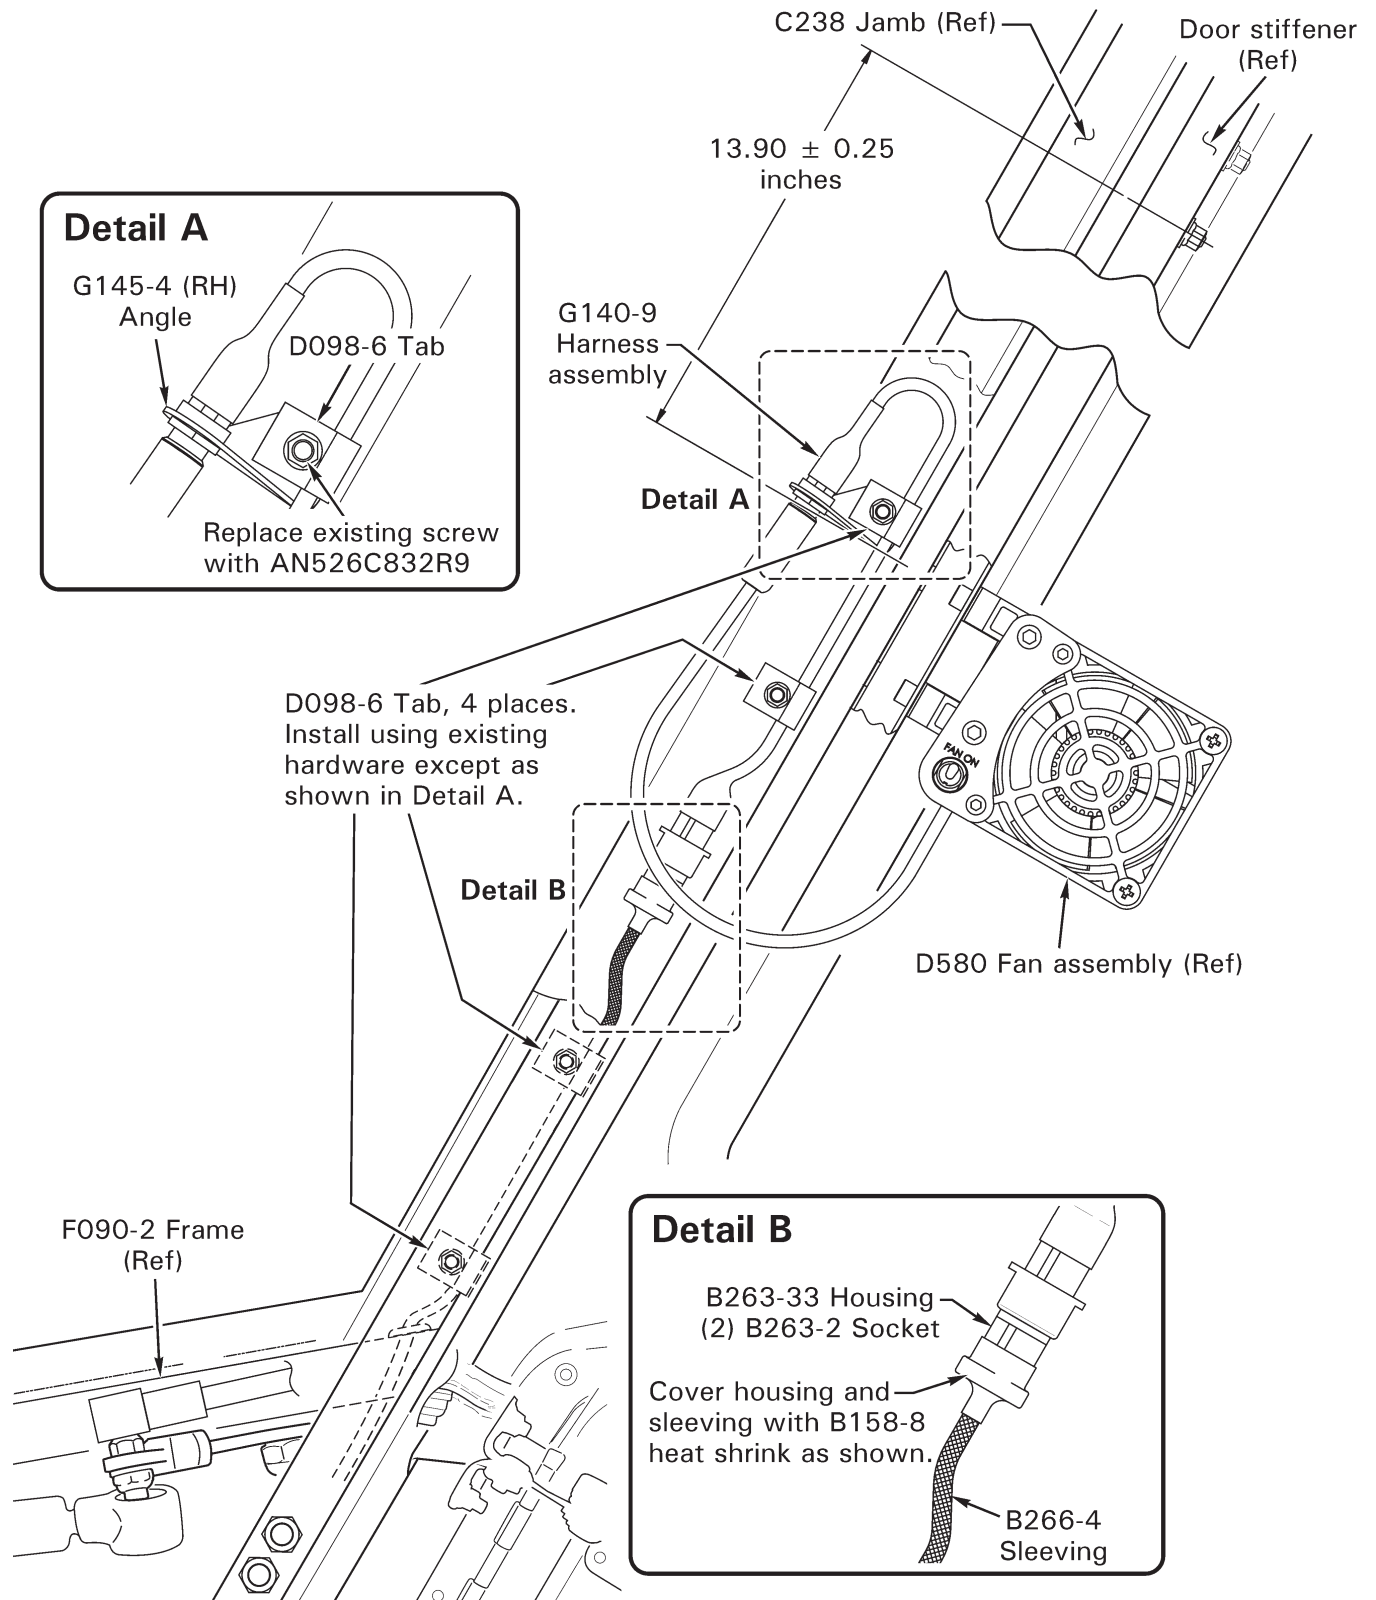

FIGURE 1
7. Refer to Figure 1. Install G145-4 angle, D098-6 tab, and G140-9 harness assembly as shown, replacing existing screw with AN526C832R9 screw and securing harness assembly wire in C238 jamb. Install a second D098-6 tab below first as shown, using existing hardware.
14. Refer to Figure 1. Install third D098-6 tab just above F090-2 frame using existing hardware. Install fourth D098-6 tab (above) in C238 jamb using existing hardware and securing sleeve-covered wires. Verify sleeve-covered wires are not pinched and are held securely in C238 jamb.
15. Refer to Figures 1 & 4. Cut wires -2881 & -2880 and B266-4 sleeving to length. Strip wire ends and crimp a B263-2 socket on each wire. Inspect crimp per MM § 20-94 and verify security of socket. Install wire -2880 socket in location 1 and wire -2881 socket in location 2 of B263-33 housing. Verify security.
17. Refer to Figures 1 & 2. Verify newly installed wiring is secure without preload or pinched wires. Move flight controls through full travel and verify clearance. Install D275-201 fuse in D262-10 fuse holder.